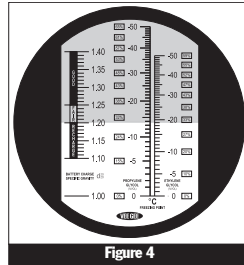

Figure 4
- 4 When the refractometer scale is viewed through the eyepiece, the upper field of view will be seen as blue and the lower field will be seen as white (Figure 4). The reading is taken at the point where the boundary line of the blue and white fields crosses the scale (Figure 5). The value is Battery Charge Level (LEFT SCALE) / the Freezing Point of Propylene Glycol (CENTER SCALE) / the Freezing Point of Ethylene Glycol (RIGHT SCALE) of the sample.